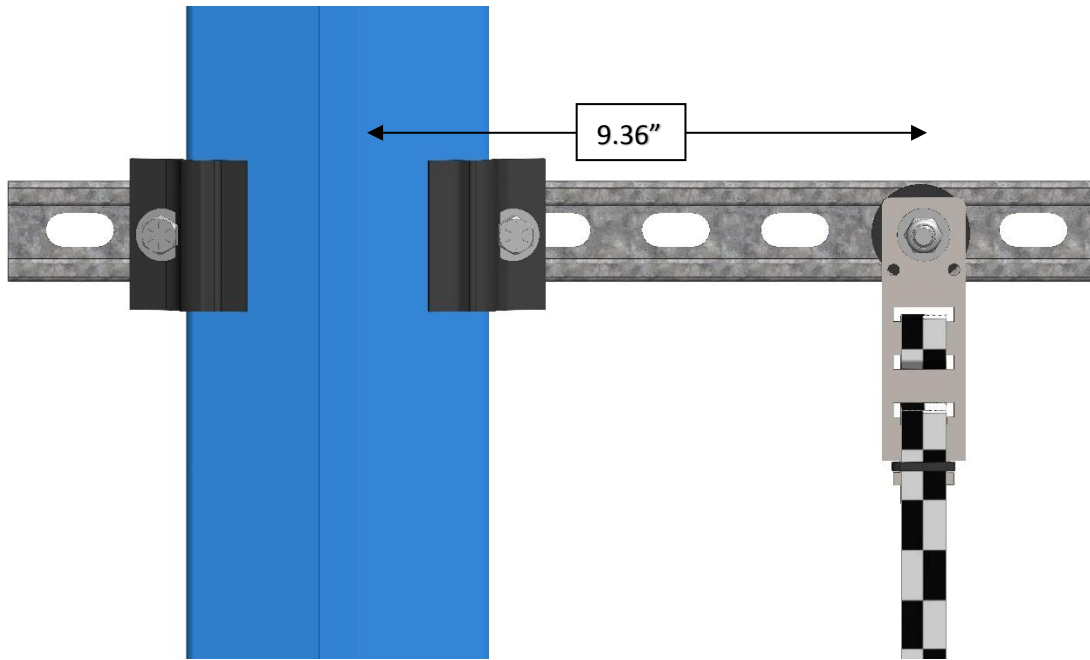

Figure 9: Upper tape Unistrut Installation
- Affix an 18" length of Unistrut to the top of guide rail as shown in figure 9.
- Position the Upper Tape Mount Assembly 9.36" from the surface of the guide rail to the center of the 3/8" bolt as shown in figure 9.